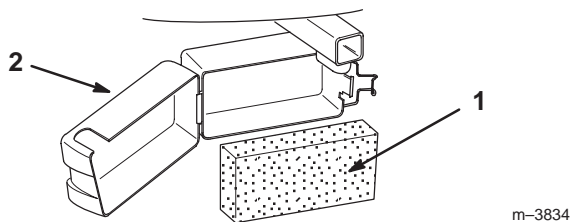

Figure 20
1. Snap the air filter cover latch open and swing it to the side (Fig. 20).